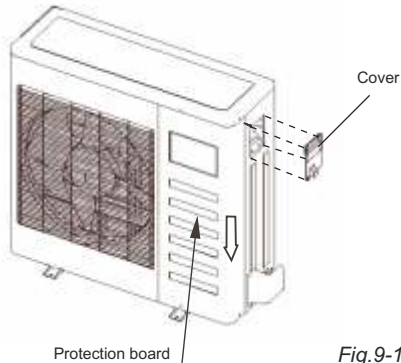
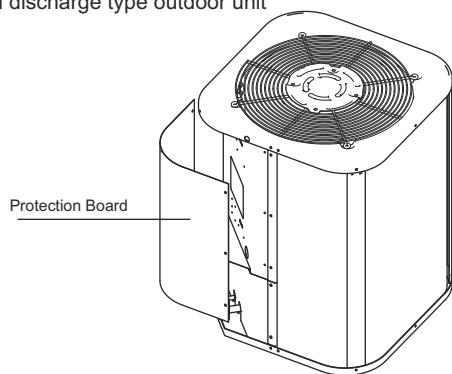
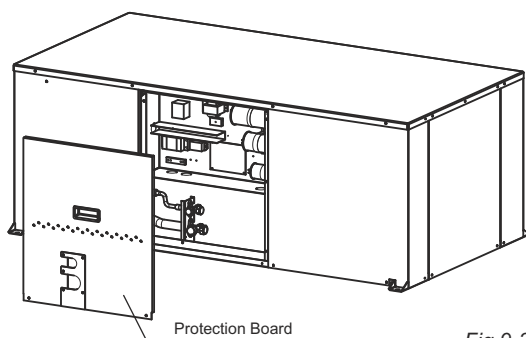

Fig.9-1
Fig.9-2
Fig.9-3
- Disassemble the bolts from the cover.(If there isn't a cover on the outdoor unit, disassemble the bolts from the maintenance board, and pull it in the direction of the arrow to remove the protection board.) (Refer to Fig.9-1, Fig.9-2, Fig.9-3)